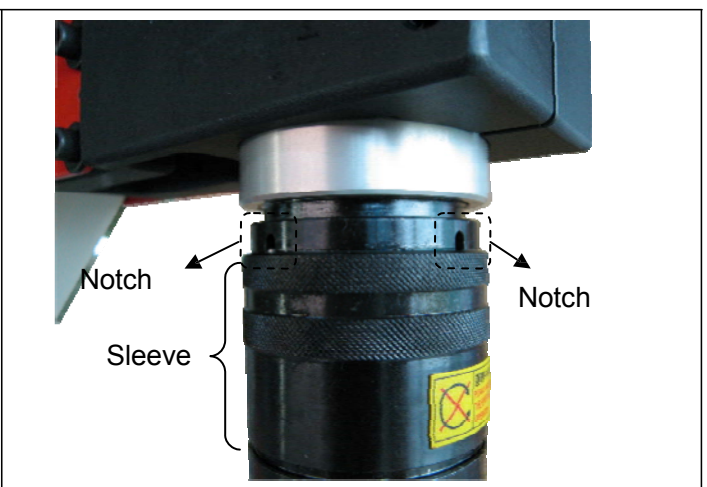

Figure 8-7
- **AT-20/I ~ AT-30/I** (Refer to Figure 8-7)